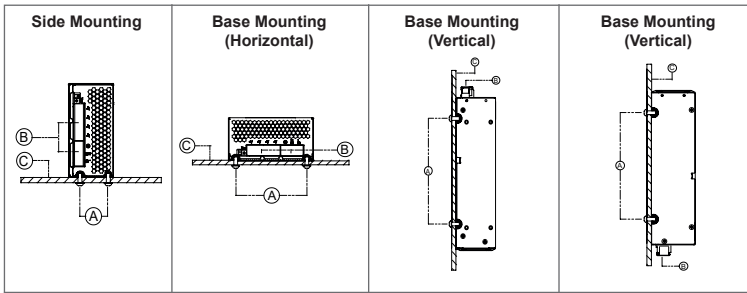
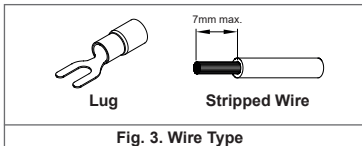

Fig. 2. Mounting Orientations
Fig. 3. Wire Type
- ① Input terminal block connector
- ② Output terminal block connector
- ③ DC voltage adjustment potentiometer
- ④ Signal Connector
- ⑤ DC OK control LED (Green)
- ⑥ DC Fan
The unit is protected with internal fuse (not replaceable) at L pin and it has been tested and approved on 20A (UL) and 16A (IEC) branch circuits without additional protection device. Refer to Fig. 2.:
- (A) Mounting holes for power supply assembly onto the mounting surface. The power supply shall be mounted on minimum 4 mounting holes using M4 screw.
- (B) Input / Output connector
- (C) This surface belongs to customer's end system or panel where the power supply is mounted.
- Use flexible cable (stranded or solid) of AWG No. 14-12. The torque at the Input connector shall not exceed 11.98Kgf.cm. The torque at the Output connector shall not exceed 16.59Kgf.cm. The insulation stripping length should not exceed 0.275" or 7mm (Refer to Fig. 3).